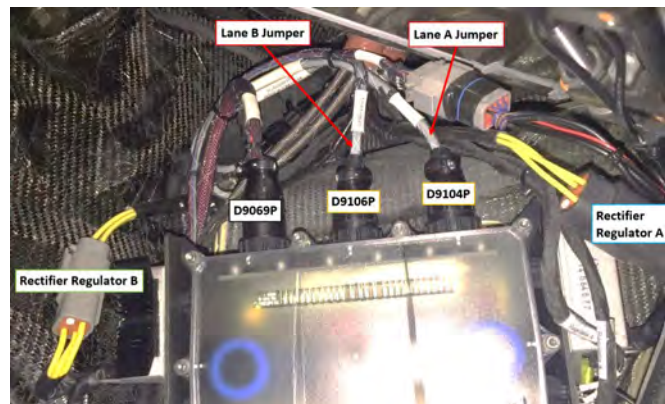

FIGURE 17-52
3. Disconnect the three connectors as shown in Figure 17-52. Retain O-rings.
9. Ensure O-rings are installed and connect the three cannon connectors. See Figure 17-52.